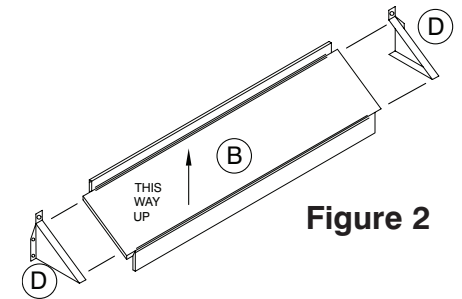

Figure 2
STEP 2: Attach the sneeze guard support angles (D) to each end of the sneeze guards (B) using the Glass Clips and Dome Cap Screws that are on the inside of the Angle Brackets. There will be two right side Angle Brackets and two left side Angle Brackets. **Figure 2.**